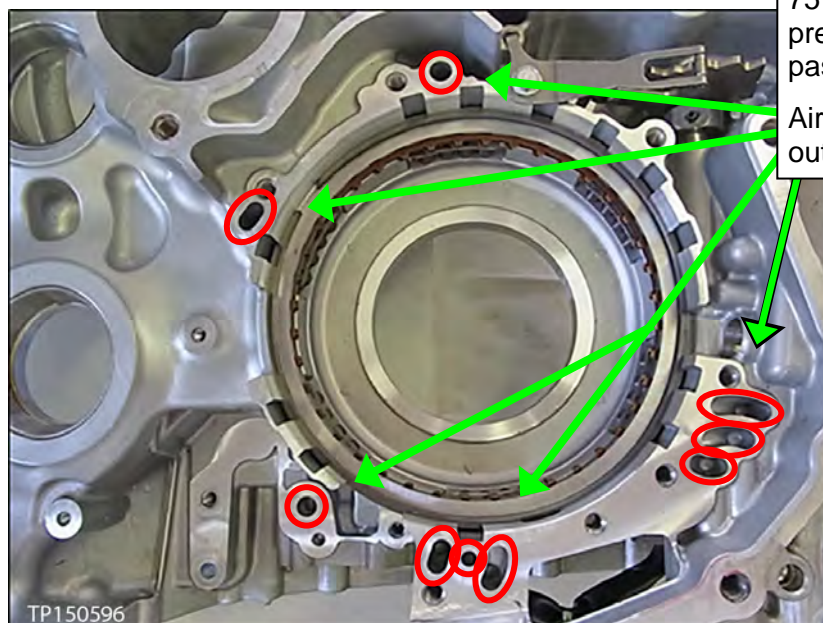

Figure 45
**NOTE:** Do not stand in front of the passages shown in Figure 45 during compressed air use.